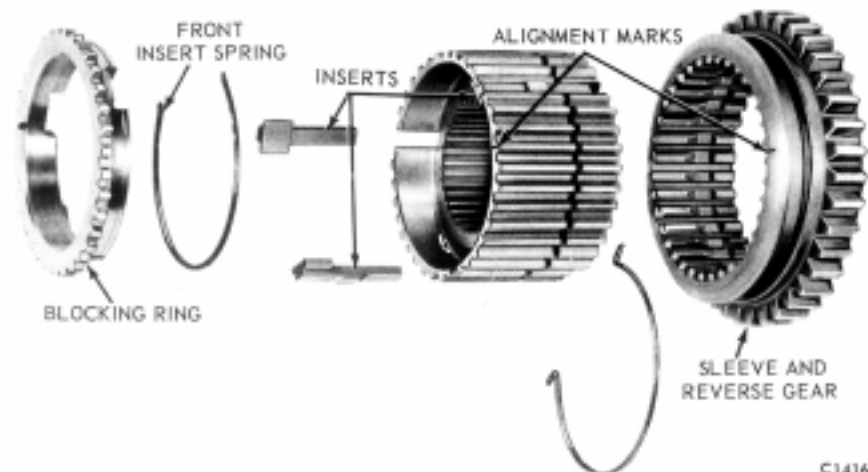

FIG. 20—First and Reverse Synchronizer —Disassembled
2. Separate the inserts and insert springs from the hubs. Do not mix the parts from the second and third-speed synchronizer with the first and reverse synchronizer (Figs. 20 and 21).